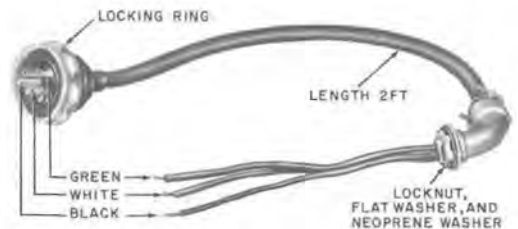

Fig. 6—KS-19580, List 30 Power Cord Assembly
- (c) **KS-19580, List 30 power cord assembly (Fig. 6):** Used to bring overhead power into an outdoor booth